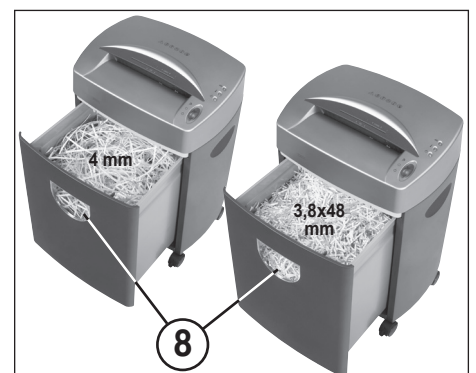

fig. 3
EMPTYING THE RECEPTACLE (Fig. 3):
When the shredded material becomes visible in the "receptacle full" window (8) (fig. 3) it is time to empty the receptacle.